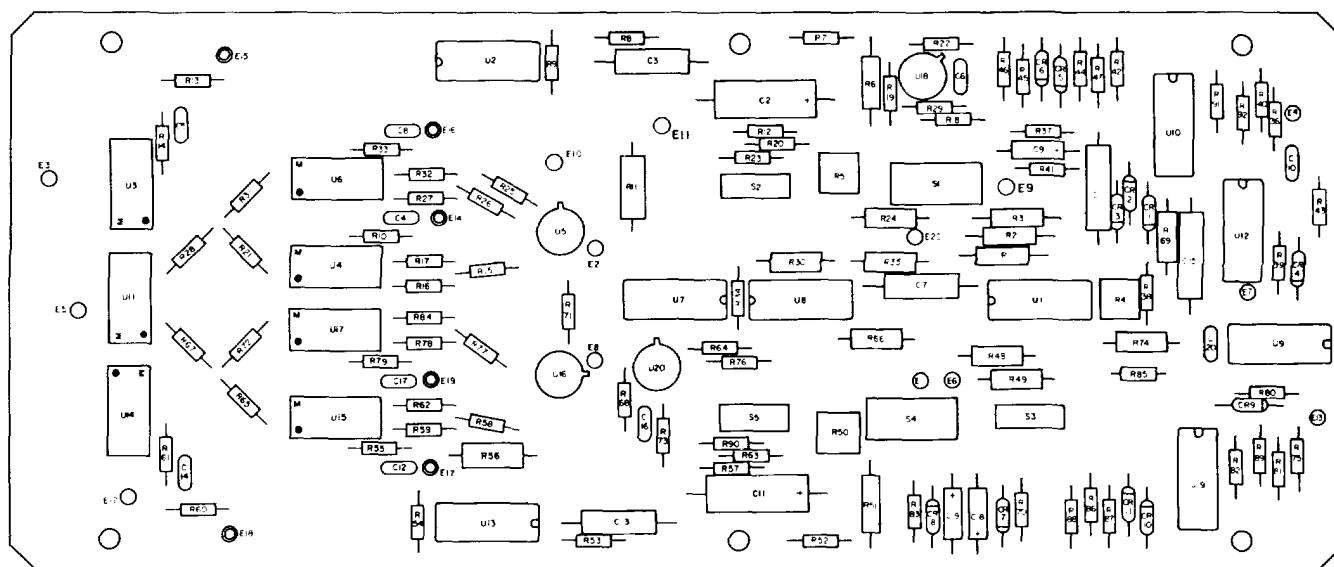

Figure 7-6. Modulation Control Circuit Card Assembly, 1A5A4A1 Parts Location Diagram
f. Modulation Control Circuit Card Assembly (1A5A4A1) Disassembly. To remove the modulation control circuit card assembly, perform the following procedures. Further disassembly should be limited to removal of parts for repair or replacement. Refer to figure 7-6 for location of components to be replaced.
(1) Remove six screws, washers and electrical spacers holding modulation control circuit card assembly (1A5A2A1) in place.
(2) Remove the circuit card assembly from modulation control assembly 1A5A4.